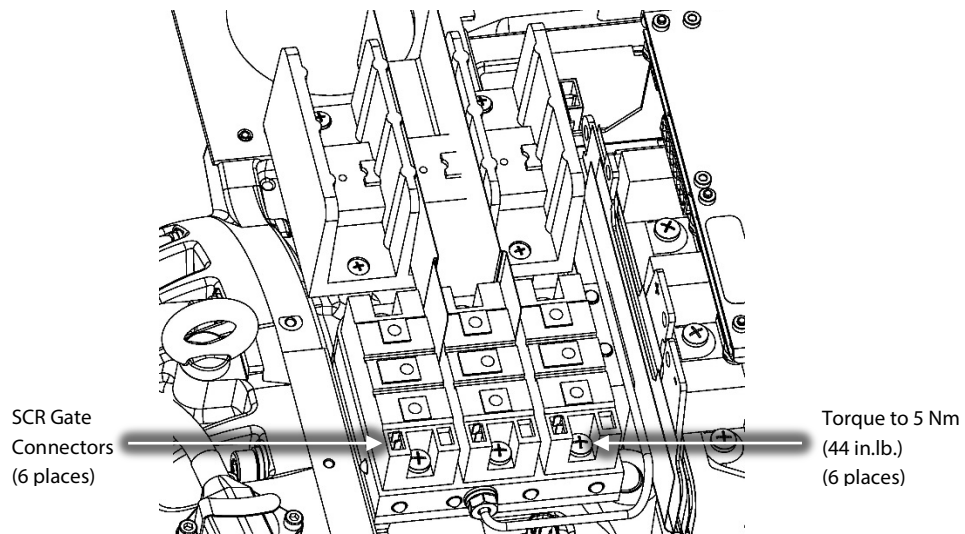

Figure 4 – SCR Screws and Gate Connectors
9. Disconnect the two (2) SCR gate connectors from each rectifier. Refer to Figure 4 – (SCR Screws and Gate Connectors).
10. Remove the two (2) screws that secure each rectifier diode to the cooling manifold and remove the rectifier diode. Refer to Figure 4 – (SCR Screws and Gate Connectors).